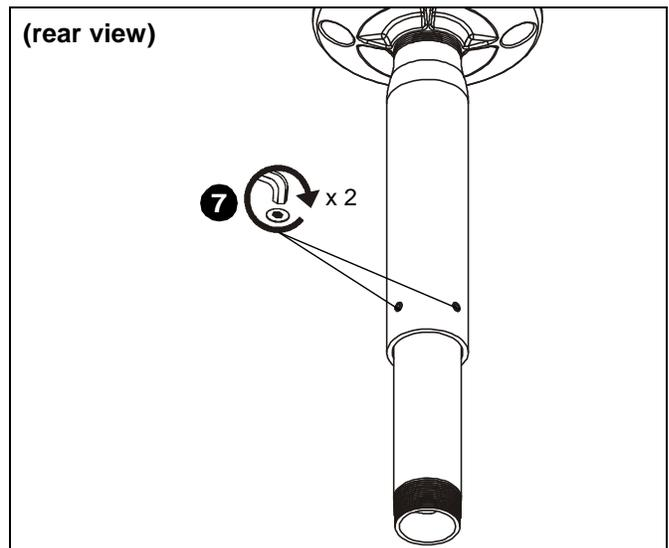

Figure 6
7. Tighten set screws on back of pipe using 3/16" key (D). (See Figure 6)